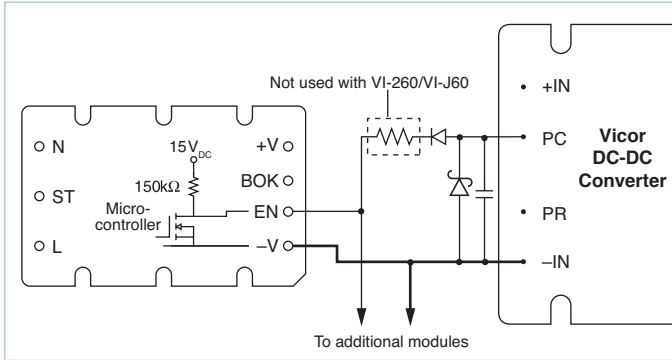

Figure 11 — Enable (EN) function; See Fig. 8 for details
Enable (EN) Pin: (See Figure 11) The Enable pin must be connected to the Gate-In or PC pin of all converter modules to disable the converters during power-up. Otherwise, the converters would attempt to start while the holdup capacitors were being charged through an un-bypassed thermistor, preventing the bus voltage from reaching the thermistor bypass threshold thus disabling the power supply. The Enable output (the drain of an N channel MOSFET) is internally pulled up to 15V through a 150kΩ resistor.